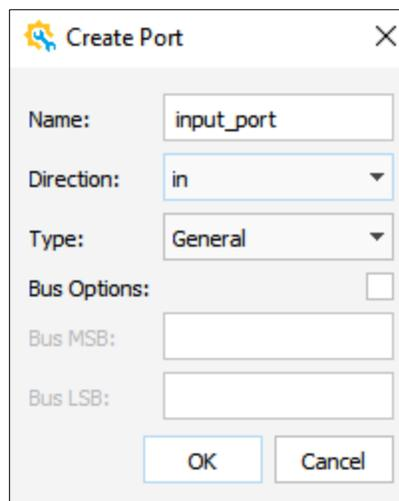

Figure 2.89. Create Port Dialog Box
- a. Right-click in the Schematic view and choose **Create Port**. The Create Port dialog box pops up (Figure 2.89).